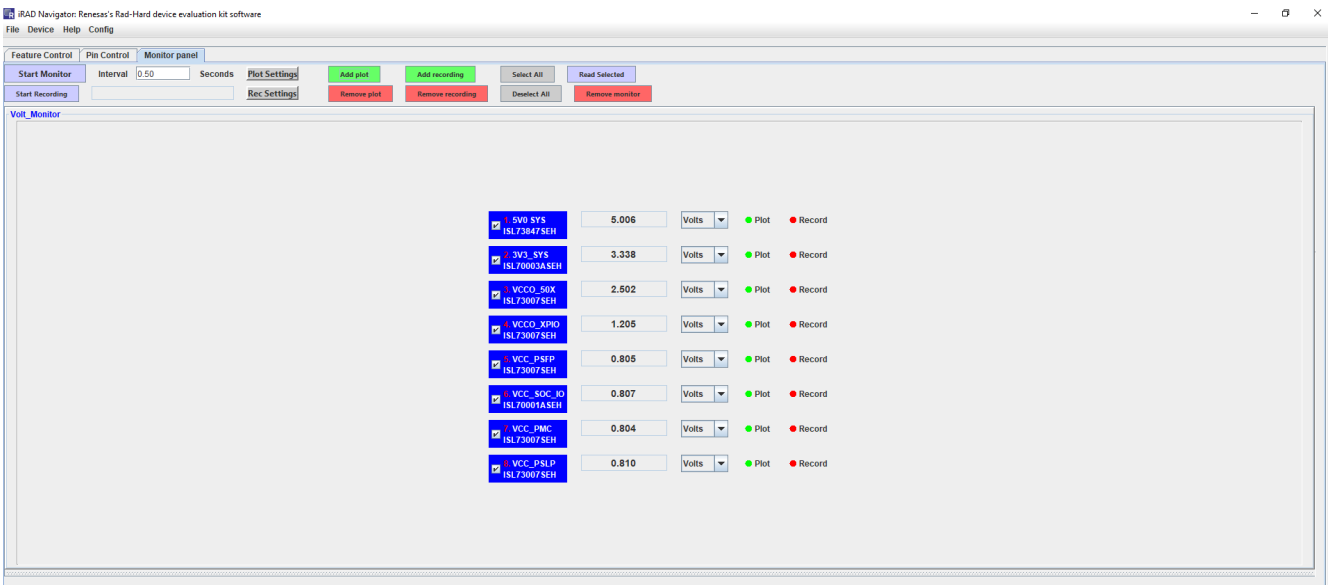

Figure 14. iRADNavigator Temperature Measurement Add to Plot
*Note:* The dots beside the Plot in this panel are red. Similarly to adding the voltages to the monitor, the voltages from the **Monitor Panel** must be added to the plot if a plot is required. To add these voltages to a plot, check the required voltages and click the green button labeled **Add Plot**. The red dots turn green when completed, as shown in Figure 14.